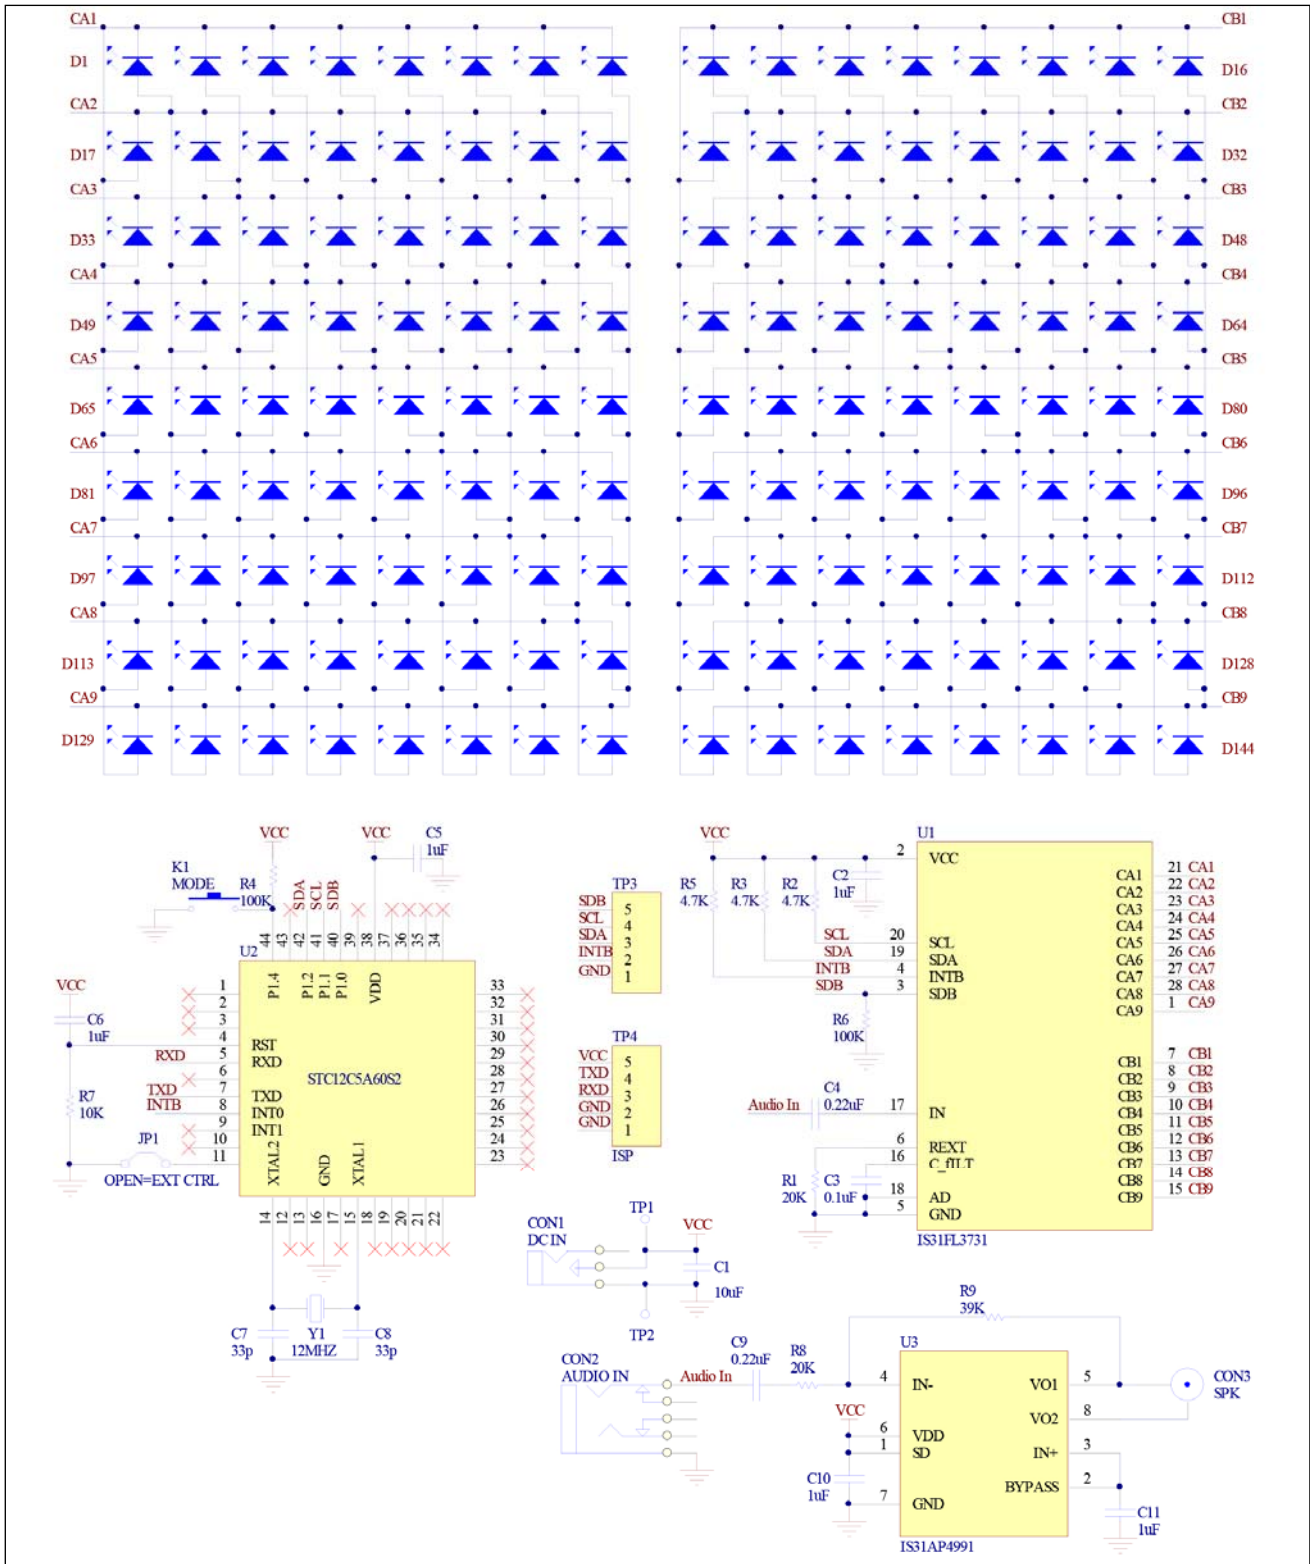

Figure 13: IS31FL3731 Application Schematic
*Bill of Materials, refer to Figure 13 above.*